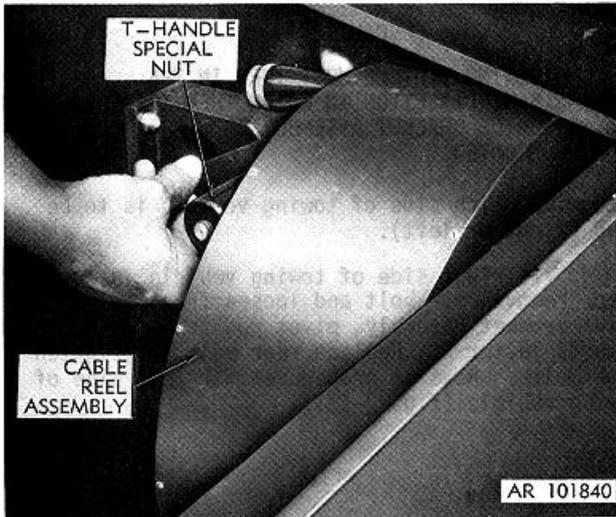

Figure 2-7. Removing T-handle special nut.
- e. Unscrew, remove and set aside the two T-handle special nuts securing cable reel assembly in accessory compartment (fig. 2-7).